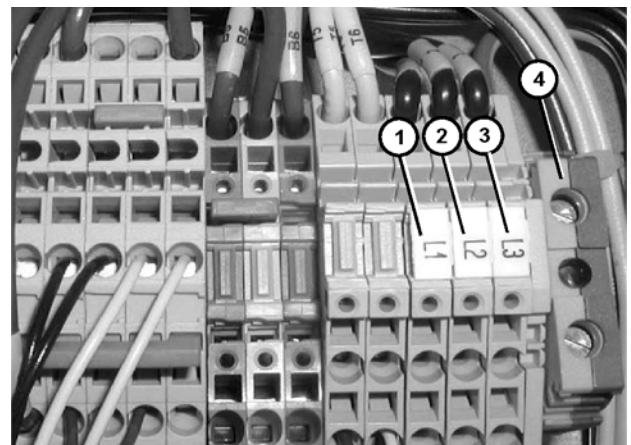

Figure 9
1. Make the input power connections through the line connection cord grip. Refer to (Figure 9) for terminations inside the VFD controller. L1 = item 1, L2 = item 2, L3 = item 3 and Ground = item 4.